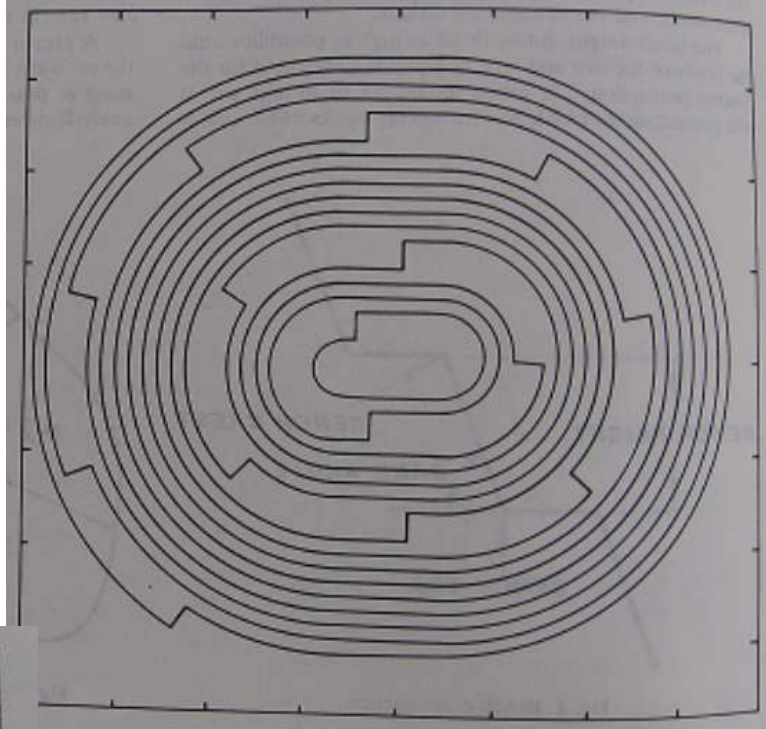
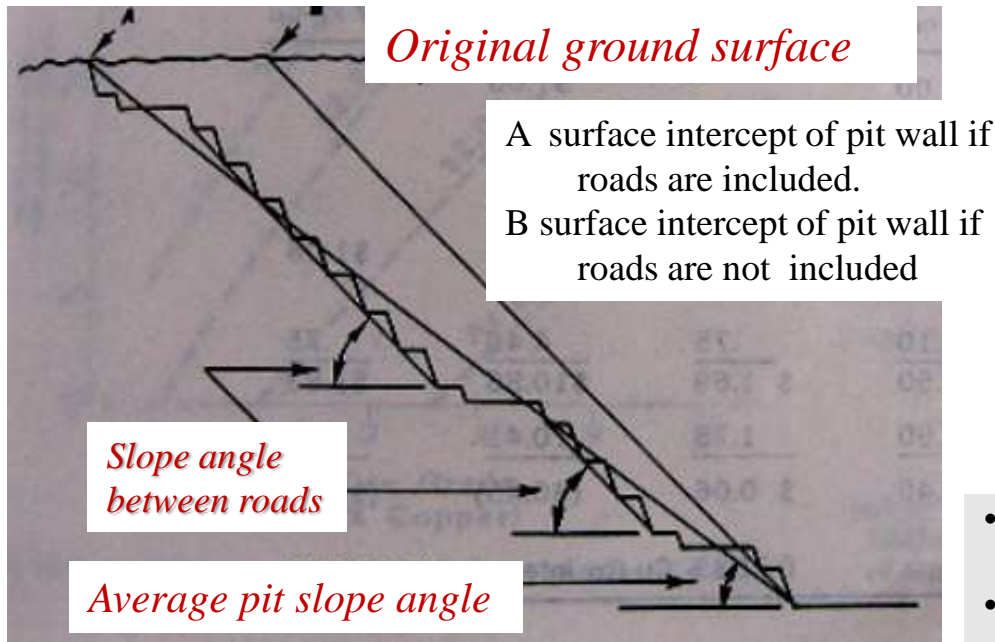

Fig.4: Pit designed with a 45° inter-ramp slope and a road system
Fig.6: Vertical section through a pit wall
- ❑ Fig 3 and Fig 4 show the need to design the pit with a lesser slope to allow for roads:
- The pit in Fig. 4 uses the same pit bottom and the 45° inter-ramp slope between the roads, but, a road has been added. So the overall pit slope is lesser the inter-ramp slope.
- ❑ Fig. 6 shows a vertical section of a pit wall from Fig.4.
Figure 4 shows a landslide that occurred recently following **rain storms**. A berm was created at the base of the slide **to protect the main haul road**.